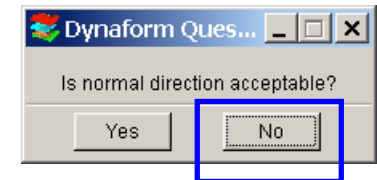

Figure 1.11
- g) Select **No** to reverse normal direction (as shown in Figure 1.11)